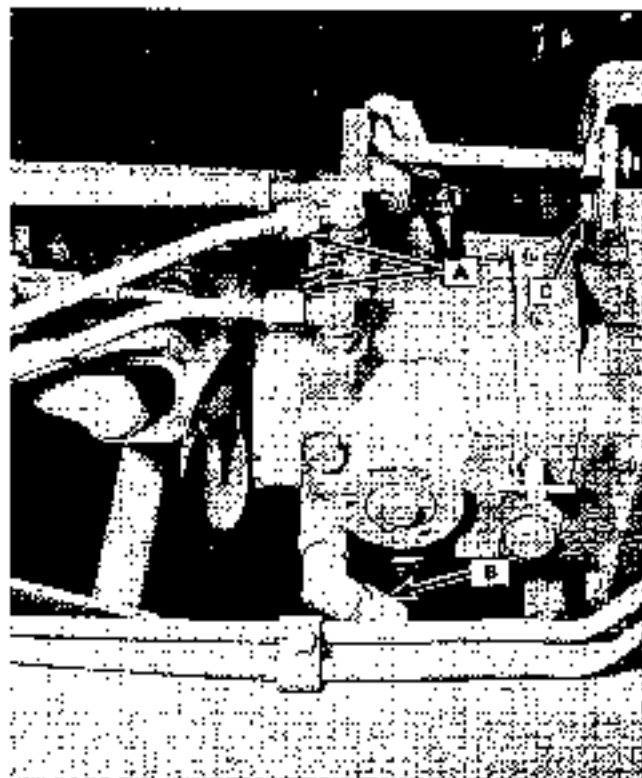

FIGURE 3-9
3. Disconnect hydraulic lines (Reference "A" fig. 3-9).
- Install the two oil line fittings and pickup tube fitting (fig. 3-9). Do not tighten packing nuts so fittings can be adjusted to lines.
- Loosen pick-up tube line at hydro end, (Reference "B" figure 3-9) until fluid leaks out. Retighten.